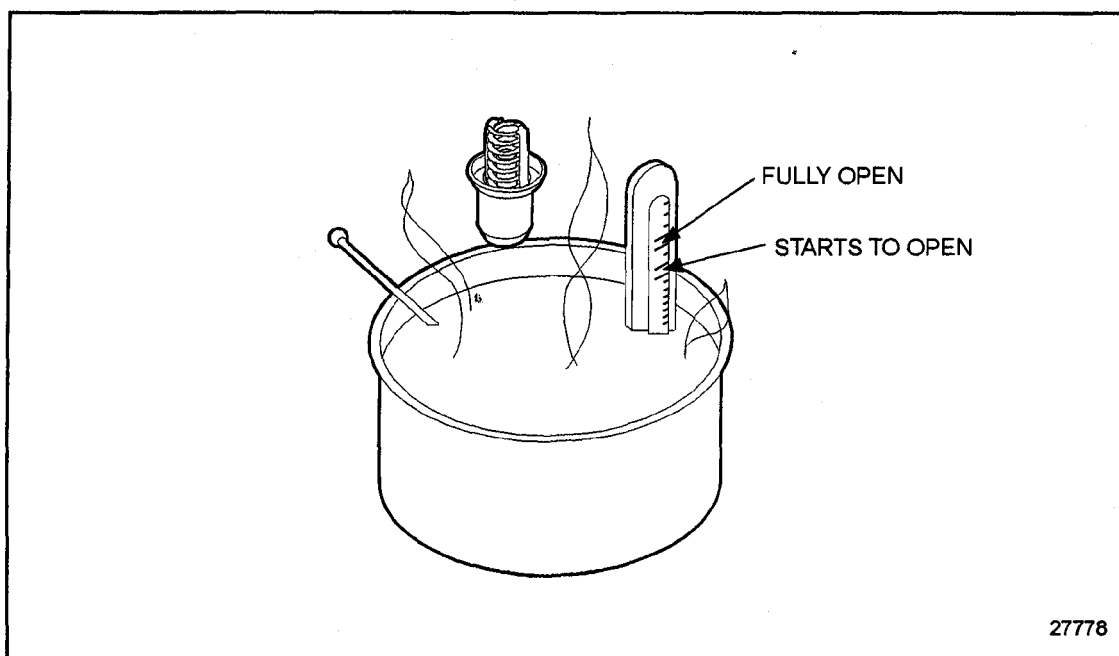

Figure 3-24 Checking Thermatic Oil Control Valve Operation
1. Immerse a thermometer and the thermatic oil control valve in a container with clean engine oil. Do not allow thermometer or thermatic oil control valve to touch the sides of the container. See Figure 3-24.